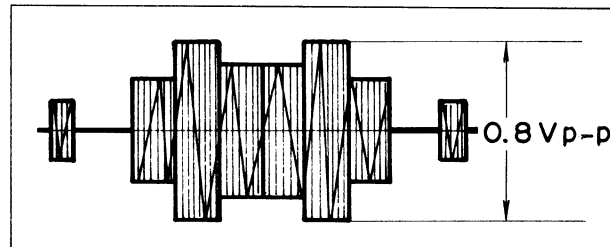

Fig. 5-28. ACC output waveform
2. At this time, verify that the output is 0.8 volts p-p. Refer to Fig. 5-28.